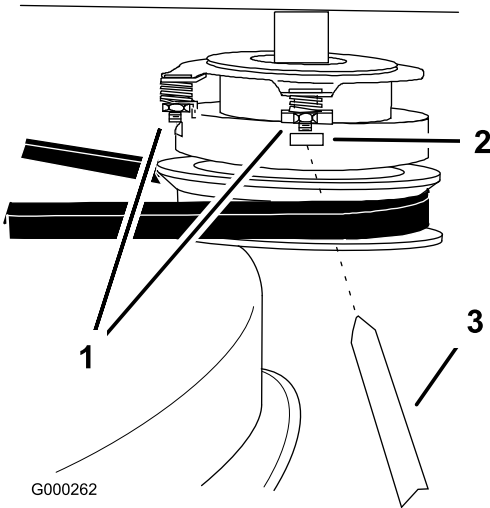

Figure 45
1. To adjust the clutch, tighten or loosen the locknuts on the flange studs (Figure 45).
2. Check adjustment by inserting a feeler gauge through the slots next to the studs (Figure 45).